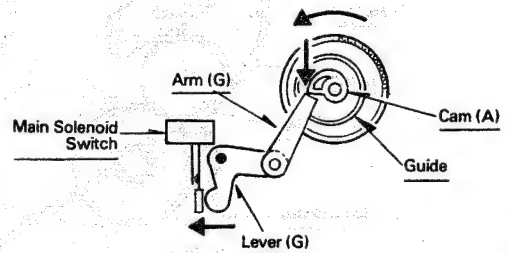

Fig. 11
4. When the reel units stop, Arm (G) is led by the Guide toward the center of Gear (A). However, Arm (G) to which a circumferential direction force is not applied is depressed by Cam (A), so that Lever (G) moves in the arrowed direction and presses the Main Solenoid Switch (Fig. 11).